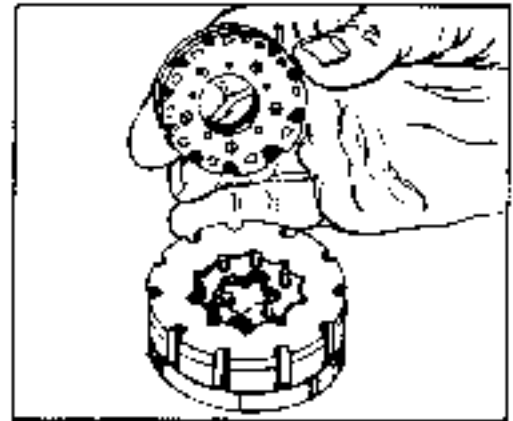

FIGURE 26.
remove commutator 31. Remove the commutator (22) from the rotor (24). See figure 26.